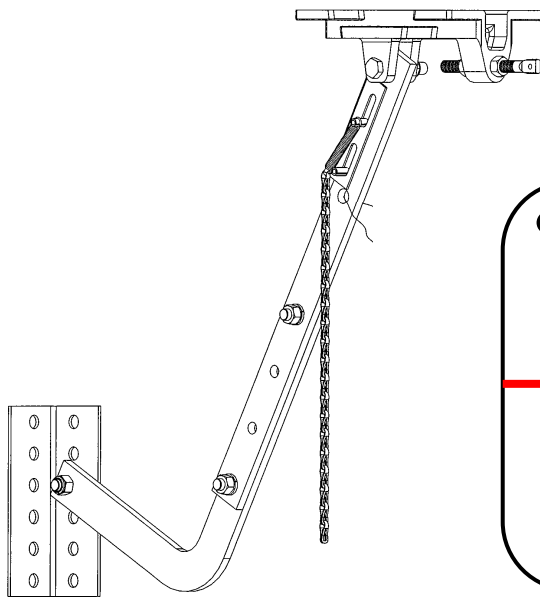

Figure 2 Warning tag
6. Ensure that the warning tag supplied with the operator is properly fixed on the door and it is visible while the door is moving. (Figure 2)